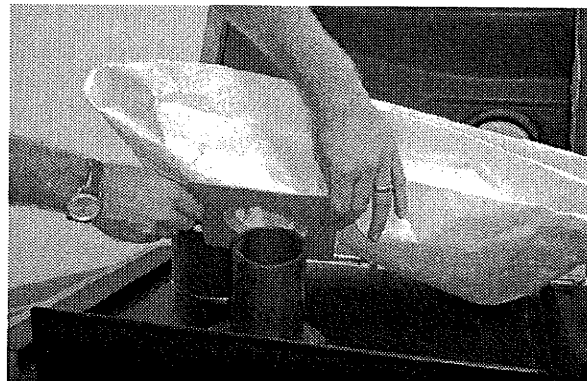

FIG. 32
5. Inspect filter bag. If bag's inner surface is completely coated with debris replace with new bag (Figure 32).